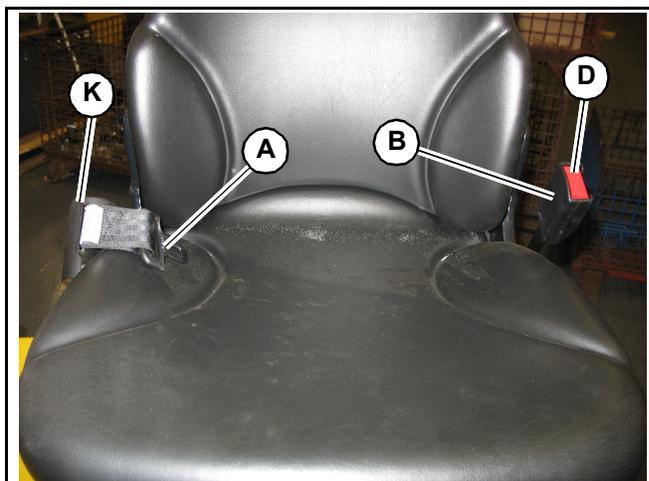

Fig. 28 – Seat Belt
Fasten the seat belt around your hips and waist and insert tongue (A, Fig. 28) into clasp (B) until it clicks securely in place. Slack in the seat belt should automatically retract into seat belt spool (K).